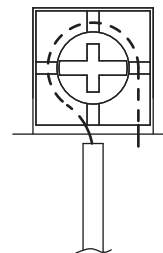

Fig. 22
- Connect the terminal as shown in Fig. 22. When installing a single core wire.